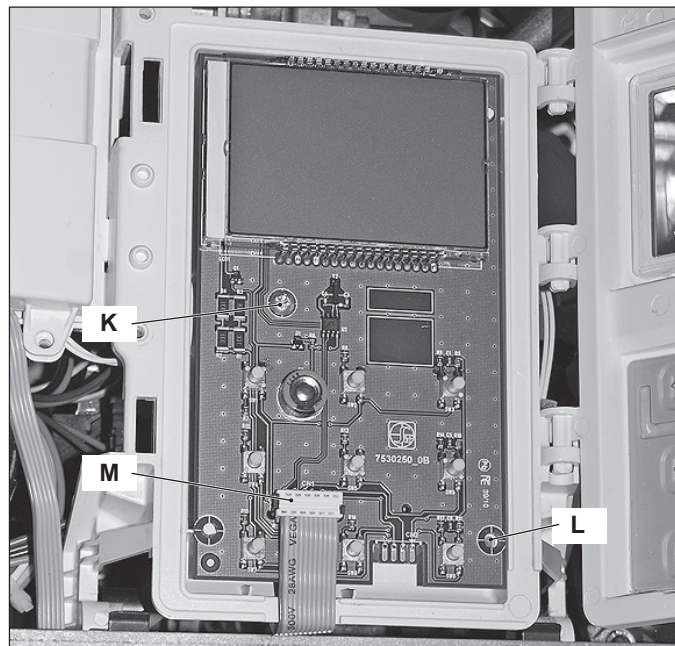

Figure 10.3
- 3 Remove all the wiring "M" connected to the *Control panel electronic p.c.b.* (Figure 10.3).